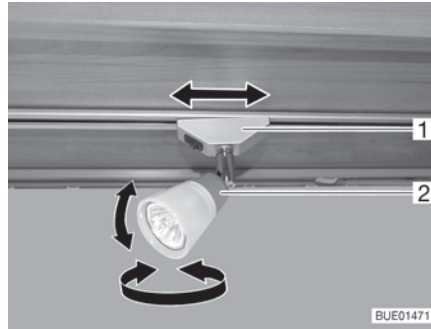

Fig. 35 Spotlight
- Turn housing (Fig. 35,2) of the spotlight to the desired direction. The housing can be turned in following directions:
- Turn holder (Fig. 35,1) through approx. 45°.
- Turn holder (Fig. 35,1) through 90°.